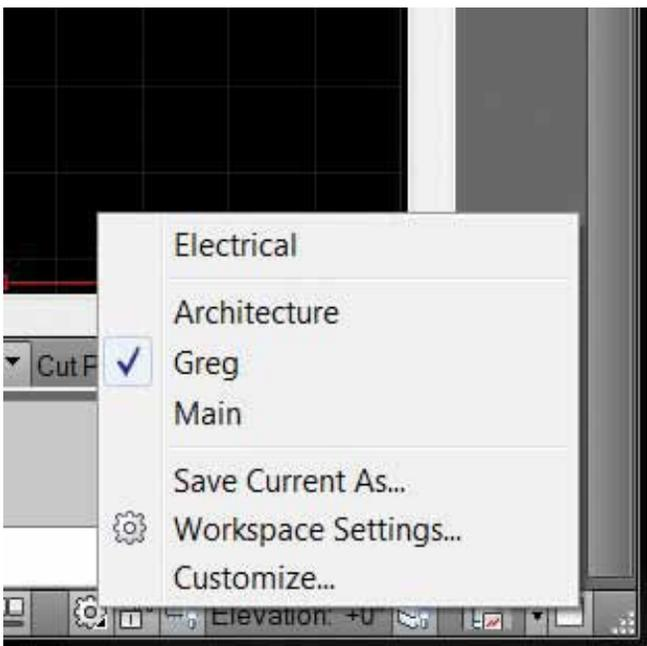

Figure 3: Workspace selection menu example
any tool palette or ribbon you use and position or dock it on the screen. I personally turn ribbons off because I prefer toolbars, and I have Properties, External References, Electrical Tool Palette, and Design Center docked to the sides. When you have the screen and settings to your liking, go to the Workspace tree or the little gear (⚙) in the bottom right of your AutoCAD screen (see Figure 3). Within that menu, select "Select Current As" and name your workspace. The name you assign will be transferred from one version to the next, so use something you are comfortable with because this will be permanent.
- Open up the new version of AutoCAD and click on the gear icon (⚙️), locate the profile name you created (*I used Greg as mine*) and select that profile (Figure 3).